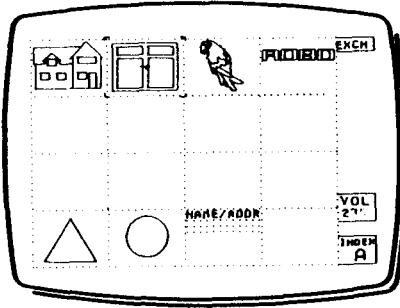

Fig 1
- 1 Select EXCH from the Menu, and the library index will appear (Fig 1).